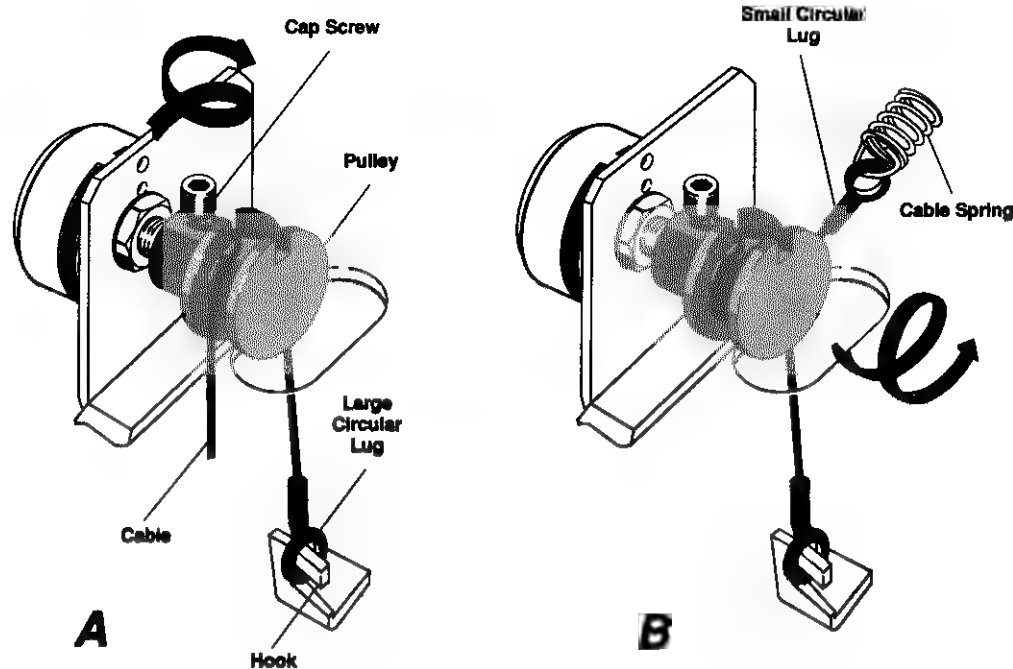

Figure 3-10 Rewinding the Gas Pedal Pulley Cable
3. Lubricate the pivot pin and surrounding area, the spring cable, and pulley with dry Teflon spray. Check that the cable is wound correctly. See Figure 3-10.
4. Put the large circular lug on one end of the cable around the hook on the pedal. See Figure 3-10, Step A. Thread the rest of the cable up through the hole in the base plate.
5. Bring the cable back through the notch and wrap it twice, counterclockwise, around the pulley. Do not wrap the cable over itself. See Figure 3-10, Step B. Hook the small circular lug onto the cable spring. The cable spring should be stretched out. Push the pedal a few times to make sure the cable returns the pedal to the rest position.
6. Put the large circular lug on one end of the cable around the hook on the pedal. See Figure 3-10, Step A. Thread the rest of the cable up through the hole in the base plate.
7. Bring the cable back through the notch and wrap it twice, counterclockwise, around the pulley. Do not wrap the cable over itself. See Figure 3-10, Step B. Hook the small circular lug onto the cable spring. The cable spring should be stretched out. Push the pedal a few times to make sure the cable returns the pedal to the rest position.
9. Put the large circular lug on one end of the cable around the hook on the pedal. See Figure 3-10, Step A. Thread the rest of the cable up through the hole in the base plate.
10. Bring the cable back through the notch and wrap it twice, counterclockwise, around the pulley. Do not wrap the cable over itself. See Figure 3-10, Step B. Hook the small circular lug onto the cable spring. The cable spring should be stretched out. Push the pedal a few times to make sure the cable returns the pedal to the rest position.
- a. Put the large circular lug on one end of the cable around the hook on the pedal. See Figure 3-10, Step A. Thread the rest of the cable up through the hole in the base plate.
- b. Bring the cable back through the notch and wrap it twice, counterclockwise, around the pulley. Do not wrap the cable over itself. See Figure 3-10, Step B. Hook the small circular lug onto the cable spring. The cable spring should be stretched out. Push the pedal a few times to make sure the cable returns the pedal to the rest position.